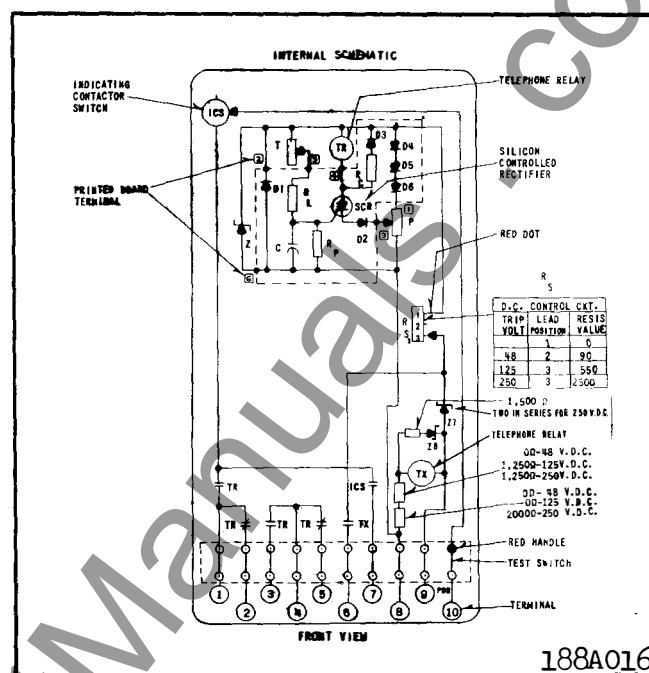

Fig. 5 Internal Schematic of TD-5 with Telephone Relay (TX).
The telephone relay (TX) is energized by the application of a d.c. voltage to the relay. Because of its slow dropout characteristic a contact of the TX relay is connected around the contact of the initiating relay to maintain voltage to the timing module of the relay if the contact of the initiating relay bounces. Refer to Fig. 5.